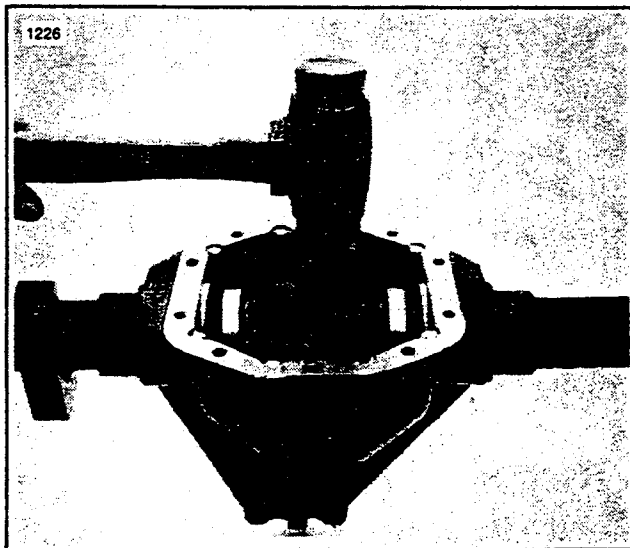

Figure 3-27. Seating Differential Case Assembly
- Install differential case assembly (6) along with bearing cups (7) into housing aligning ring and pinion gears to avoid nicking teeth. Tap ring gear lightly with soft hammer to seat case assembly, in housing (Figure 3-27).
- Install bearing caps (5) making sure the letter stamped on them corresponds to the letter on the